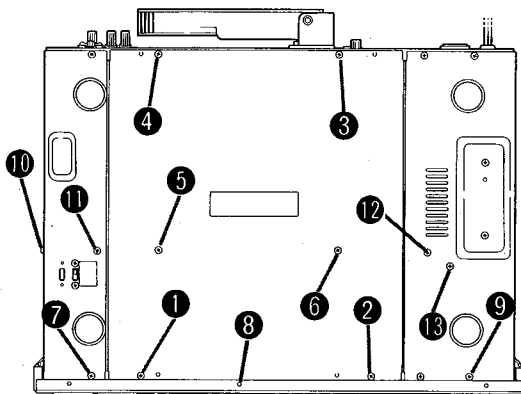
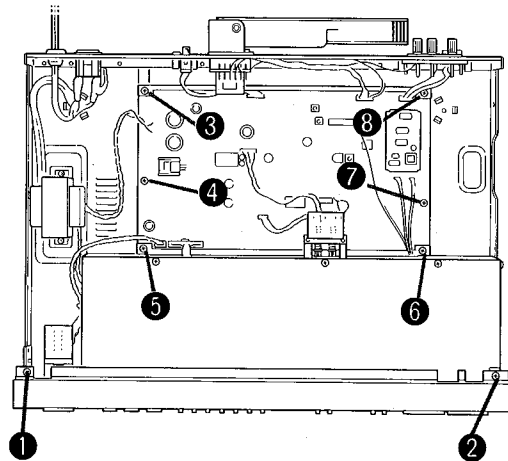

Fig. 2
Fig. 3
Remove screws ① to ⑥ in Fig. 2 and then remove the bottom cover.
2. Remove screws ⑦ to ⑨ in Fig. 2 and ① and ② in Fig. 3. Remove the front panel by pulling it toward you gently.
5. Remove screws 5, 6 and 10 to 13 in Fig. 2 and then remove shield plate.
3. Remove screws 3 to 8 in Fig. 3 and then remove PCB-1.